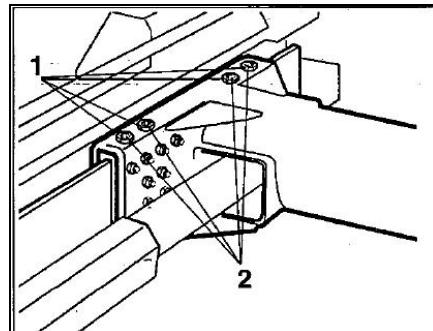

Fig.8.6
- e) Loosen the four register locking nuts (1 Fig.8.6).
- f) Screw each of the six slide shoe register screws (2 Fig.8.6) a quarter turn.
- h) Tighten the four register locking nuts (1 Fig.8.6)